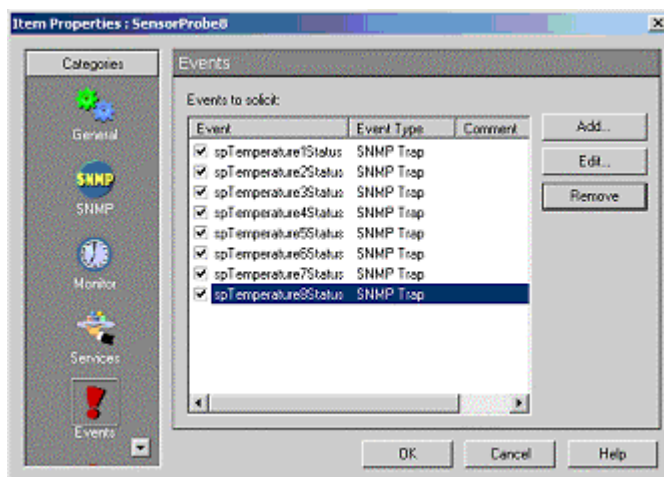

Figure 11 Trap events assigned to the ServSensor
3.7 Repeat setup 2.3 to 2.6 to add all spTemperature2Status to spTemperature8Status as show in Figure 11.